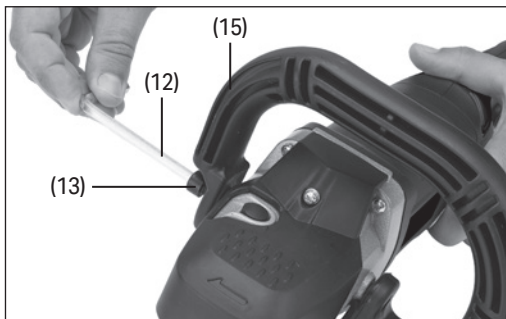

Fig.1
6.1 Fitting/Adjusting the D Handle (Fig.1 – Fig.2)
(Fig.1 – Fig.2)